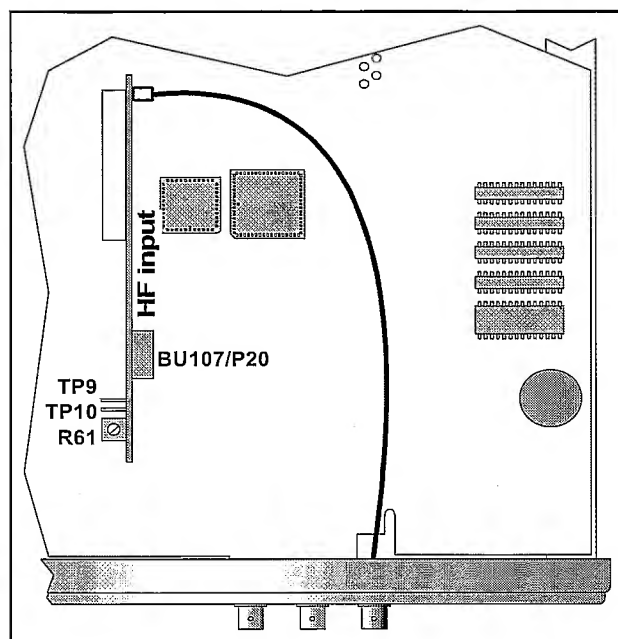

Figure 6-10 Test points and trimmers for the 2.7 GHz HF-input.
- Turn the potentiometer R30 fully counterclockwise. See Figure 6-10.